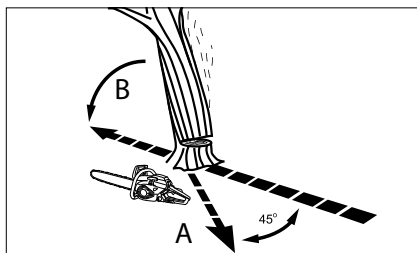

Fig. 14
Mark out your escape path (A) in advance and clear it of possible obstacles before you start cutting. The escape path must be in the direction opposite to the direction in which the tree is expected to fell (B) (fig. 14).